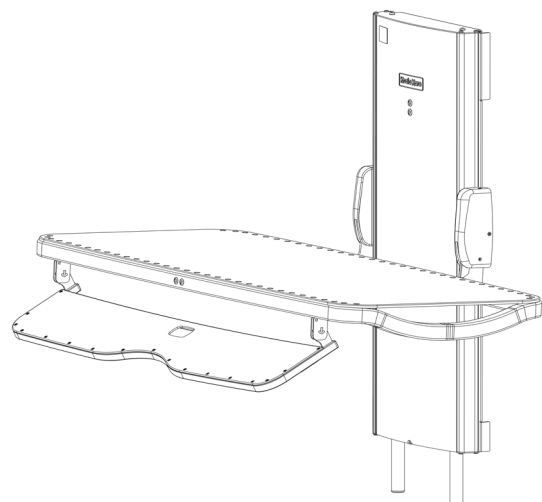

Fig 6.6b
- Pull down on the front edge of the guard so it rotates down. Take care not to let go as it may swing around on its own, see Fig 6.6b.